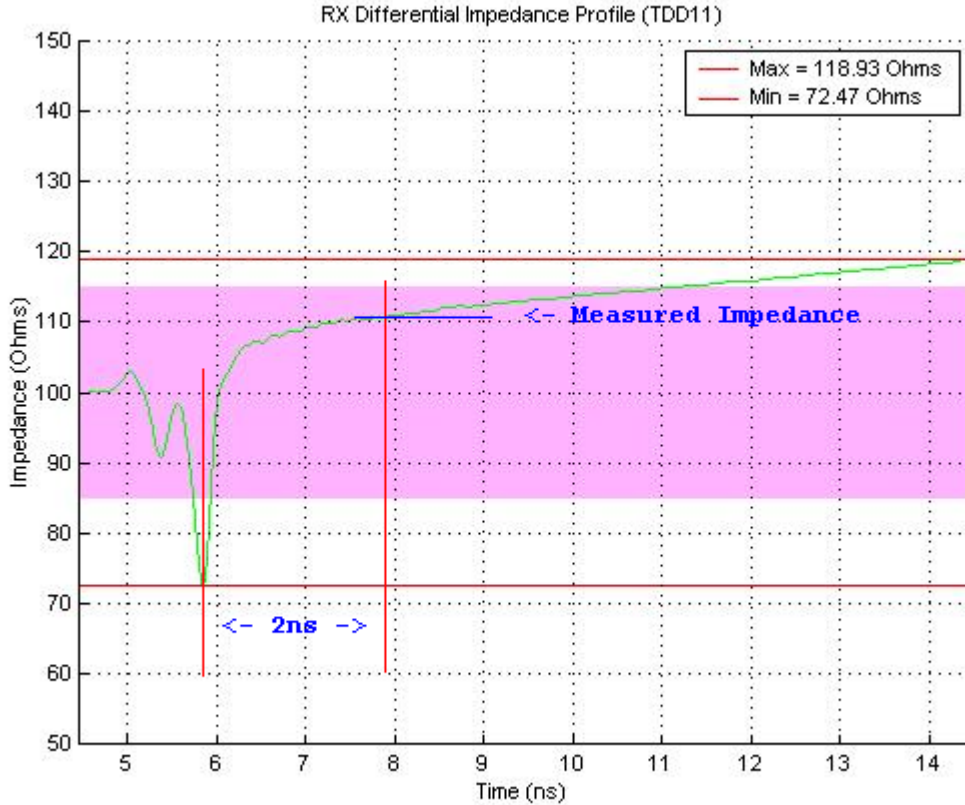

Figure 1: Sample Impedance Measurement at time point 2ns after last major dip
- 6 Record the impedance value at the point occurring 2ns after the last major capacitive dip (See Figure 1, next page, for sample measurement.)